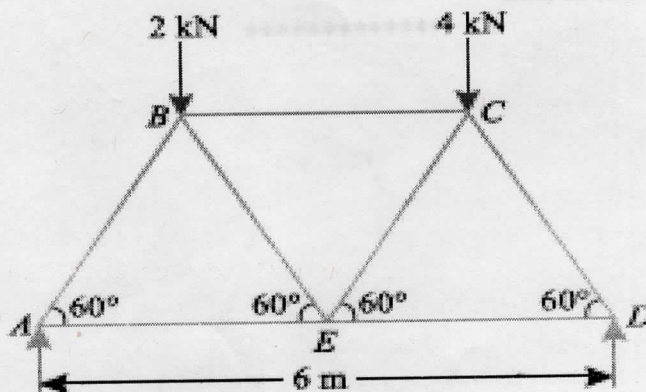

Figure: 2
- b) Figure 2 shows a Warren girder consisting of seven members each of 3 m length freely supported at its end points. The girder is loaded at B and C as shown. Find the forces in all the members of the girder, indicating whether the force is compressive or tensile.